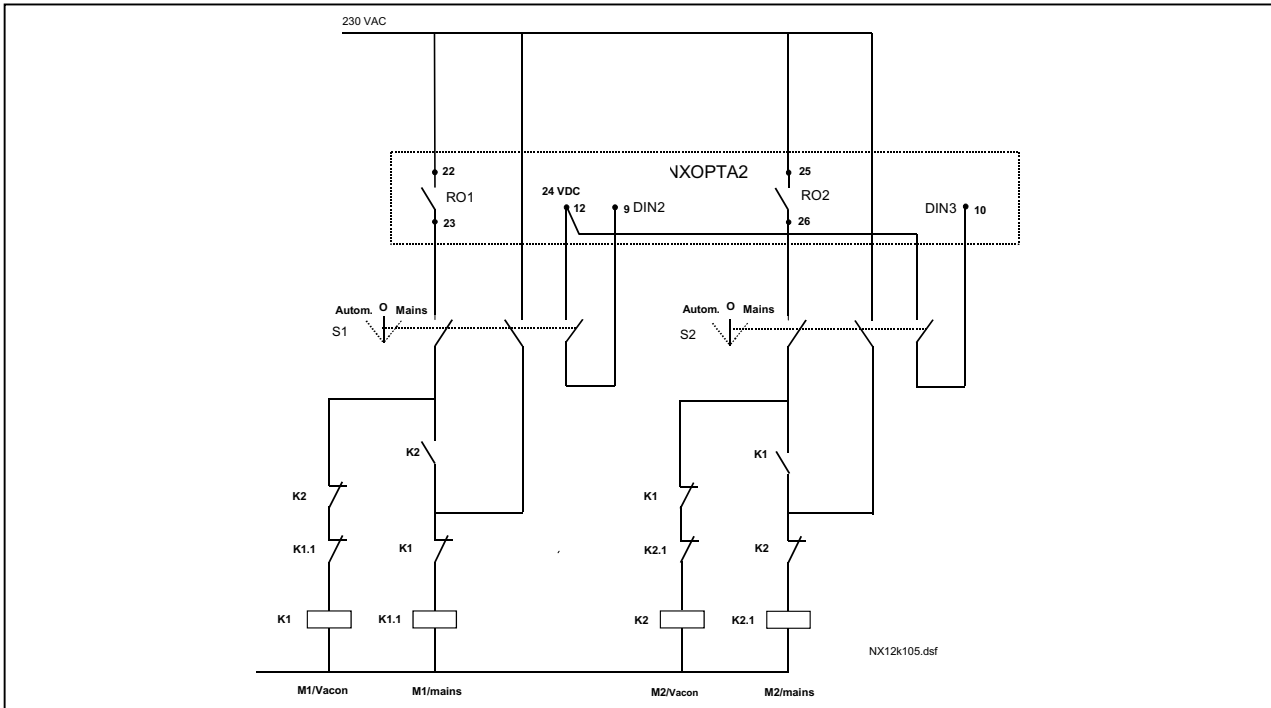
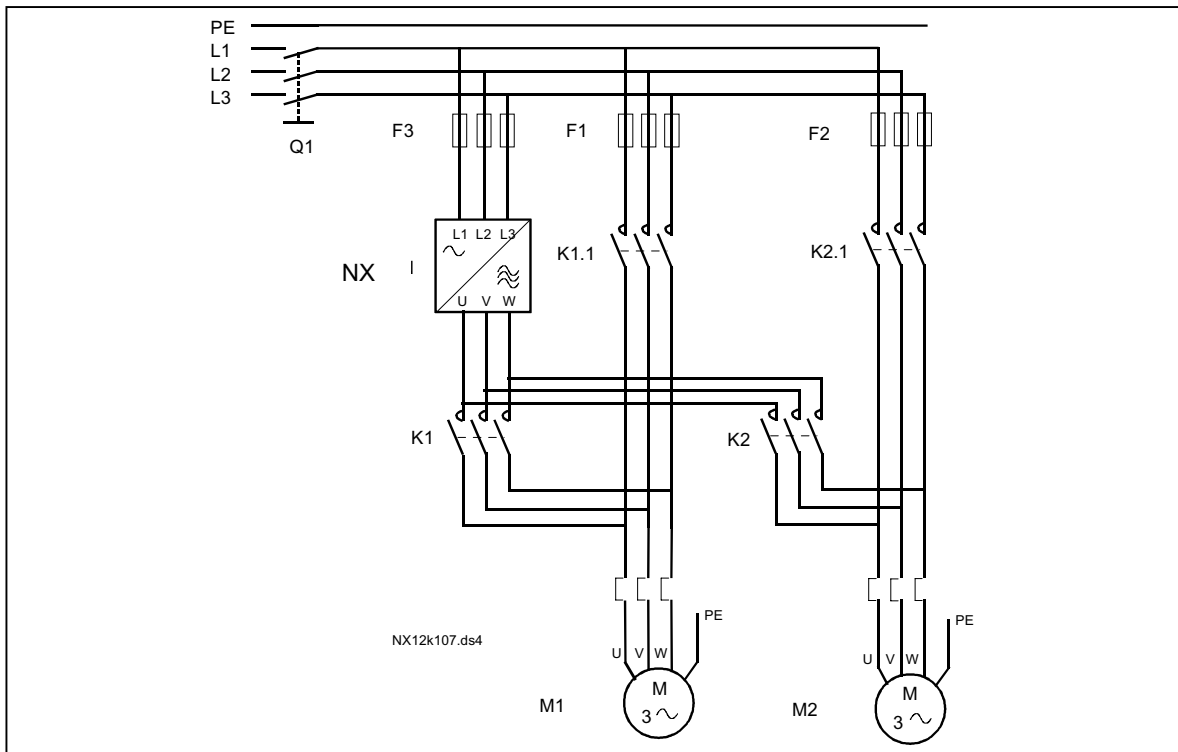
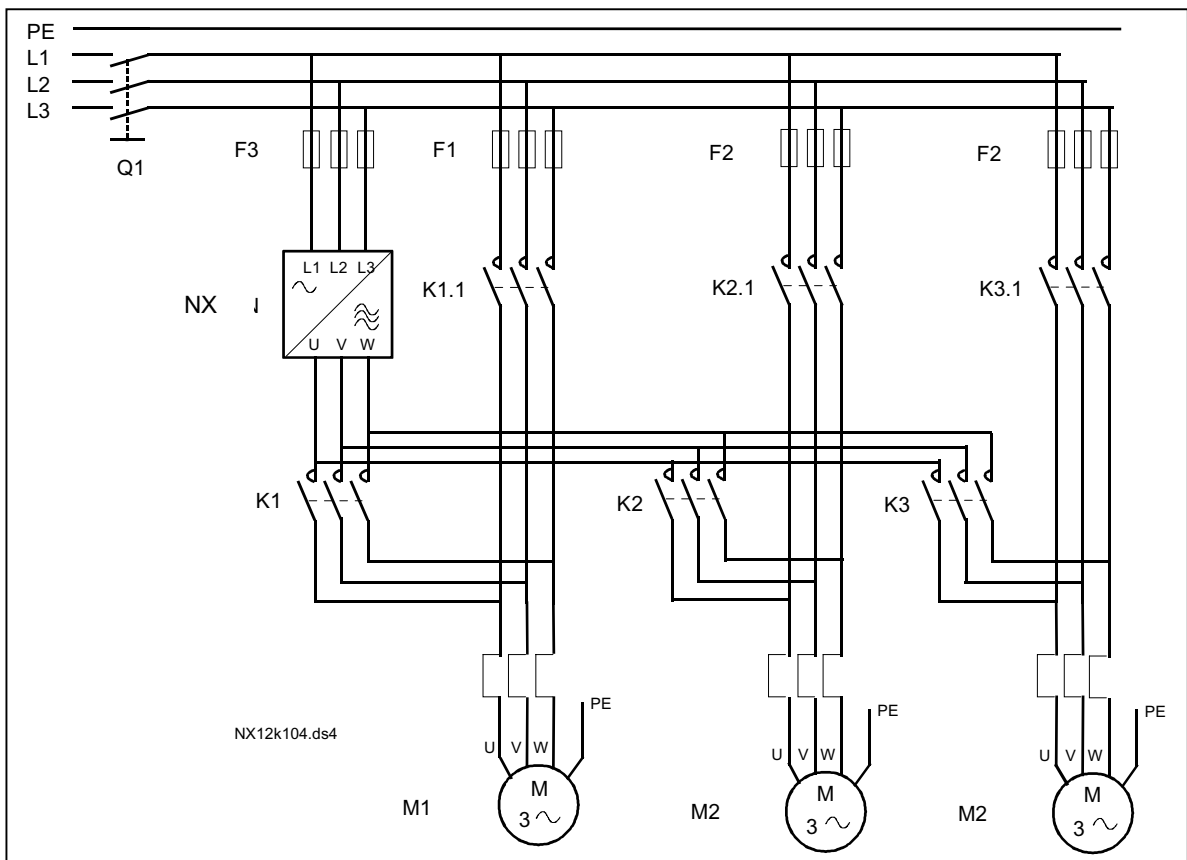

Figure 7-1. 2-pump autochange system, principal control diagram
Figure 7-5. Example of 2-pump autochange, main diagram
Figure 7-6. Example of 3-pump autochange, main diagram
- External contactors controlled through the relay outputs of the frequency drive connect the drives to the frequency drive or to the mains. If the motor controlled by the frequency drive is included in the autochange sequence, it is always controlled through the relay output activated first. The other relays activated later control the auxiliary drives (see Figure 7-5 and Figure 7-6).
The automatic change of starting and stopping order is activated and applied to either the auxiliary drives only or the auxiliary drives **and** the drive controlled by the frequency drive. depending on the setting of parameter 2.9.25, *Automatics selection*. By default, the Autochange is activated for 2 drives. See Figure 7-1 and Figure 7-5.